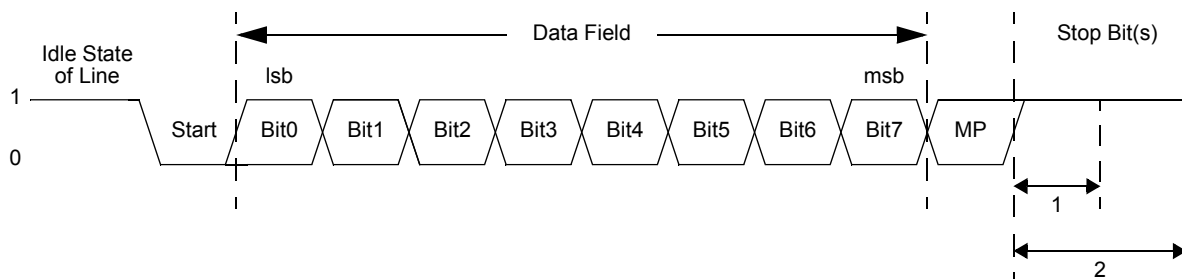

Figure 16. UART Asynchronous MULTIPROCESSOR Mode Data Format
The UART has a MULTIPROCESSOR (9-bit) mode that uses an extra (9th) bit for selective communication when a number of processors share a common UART bus. In MULTIPROCESSOR mode (also referred to as 9-Bit mode), the multiprocessor bit (MP) is transmitted immediately following the 8-bits of data and immediately preceding the Stop bit(s) as displayed in Figure 16. The character format is: